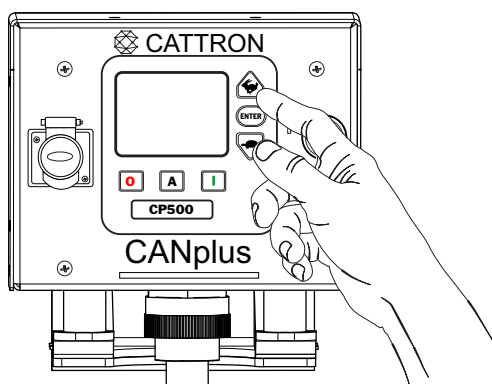

Figure 21. Increase Engine Speed (Rabbit)
2. Press the **RABBIT** button (Figure 21) to increase engine speed.